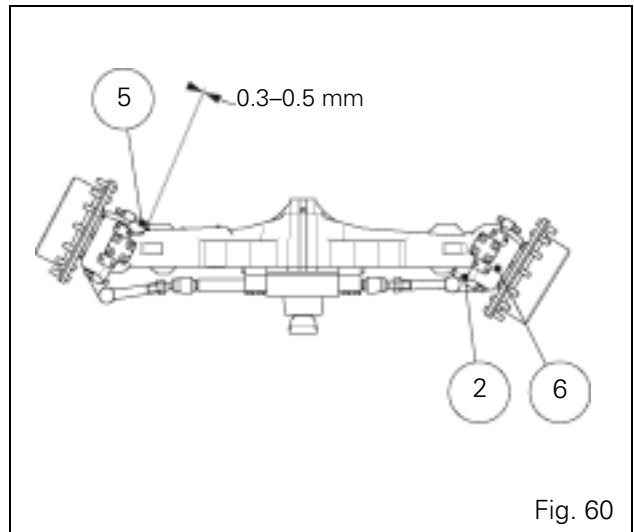

Fig. 60
Turn the swivel housing (6) to position the previously adjusted stop in order to limit the turning lock. Then, loosen the nut (4) and adjust the screw (5) on the opposite swivel housing and opposite side so the play of the travel limit stop is 0.3 to 0.5 mm ( Fig. 59and Fig. 60).